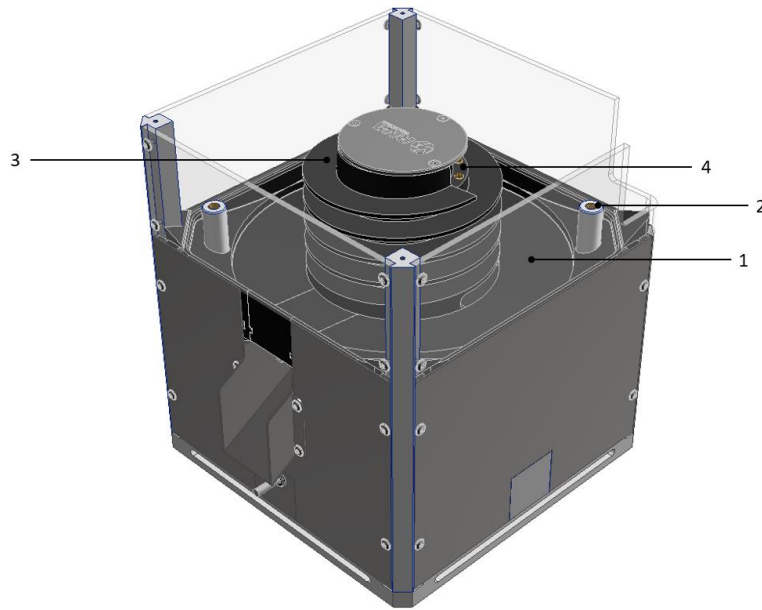

Figure 2: ROTU S without tooling
Figure 2 shows ROTU S without tooling. The materials to be conveyed are fed into the base (1) of the ROTU for storage and then travel up the material-independent spiral (3) towards the tooling. Each tooling is fastened to the four support rods (2) by means of four M8 screws supplied. Two en-sat bushings (4) are located on the inner helix for the attachment of further, material-specific arrangement elements by means of M8 screws.